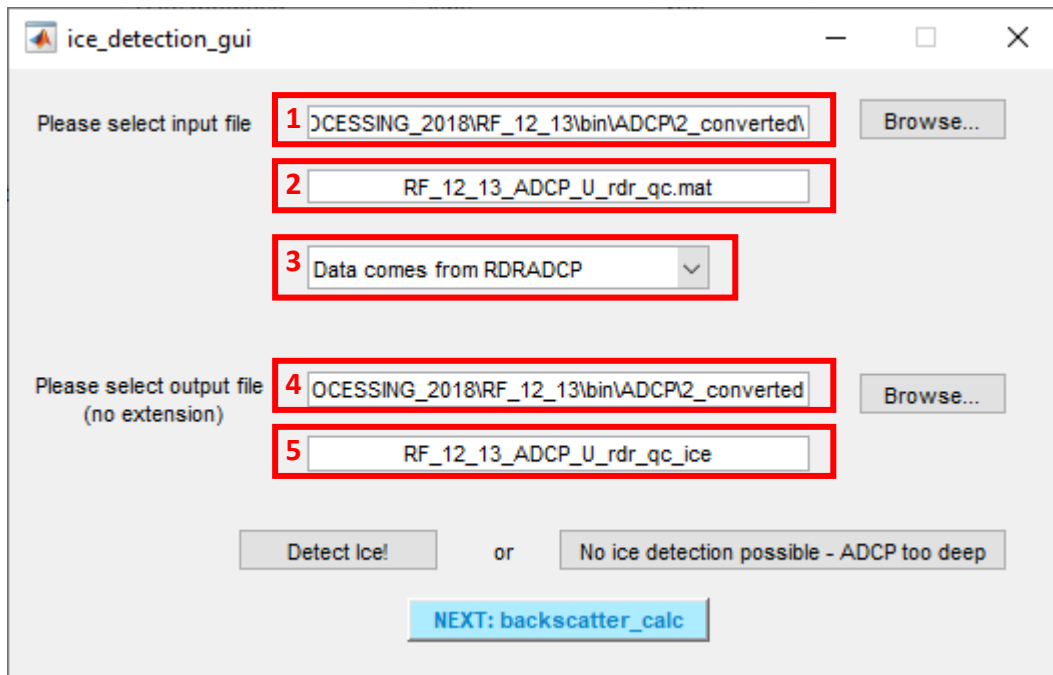

Figure 12: *ice_detection_gui* interface
- If the ADCP data reaches the surface (see 'Shallowest bin depth' on previous GUI), press 'Detect Ice'. A figure will open showing the horizontal velocity in the top bin (figure 12). Follow the instructions in the command window to select the ice-covered periods. For information on indicators of ice presence see Hyatt et al. (2008). Several periods can be selected. If no ice period can be identified, simply press 'Enter' when asked to select the start and end point.